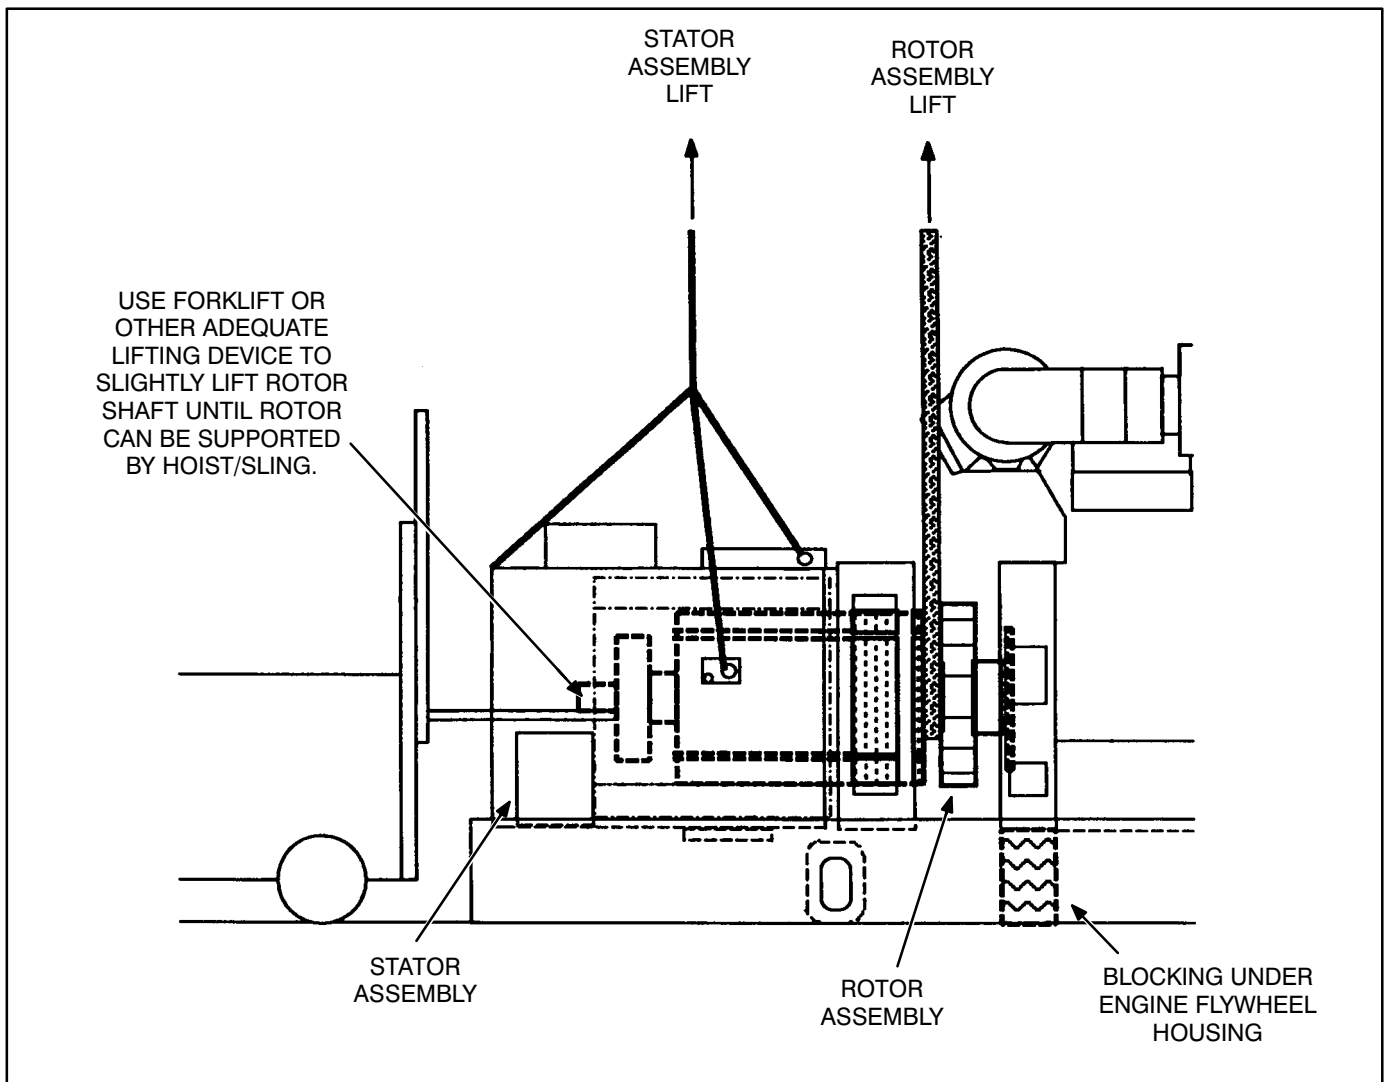

FIGURE 6-12. REMOVING HC4-7 STATOR ASSEMBLY
19. Using an adequate lifting device, lift the generator (at lifting eyes provided, and main stator housing) until the mounting feet brackets are clear of the frame member (see Figure 6-12 or 6-13).
20. If the engine does not have chassis mounts at generator end, block the rear of the engine in place by supporting the flywheel housing. A length of steel channel and wooden blocking is required to support the rear of the engine. Place the channel and blocking under the flywheel housing. Lower the generator until most of the set weight is supported by the blocking (see Figure 6-12).
22. Using a forklift, position a lifting bar of the forklift (inside and in line with the generator) under the rotor shaft. Lift the rotor shaft slightly so that rotor is not resting on inside of stator assembly. See Figure 6-12 or 6-13.
32. If the engine does not have chassis mounts at generator end, block the rear of the engine in place by supporting the flywheel housing. A length of steel channel and wooden blocking is required to support the rear of the engine. Place the channel and blocking under the flywheel housing. Lower the generator until most of the set weight is supported by the blocking (see Figure 6-12).
- Lift the generator slightly and remove any blocking from under the flywheel housing. Lower the generator (see Figure 6-12).